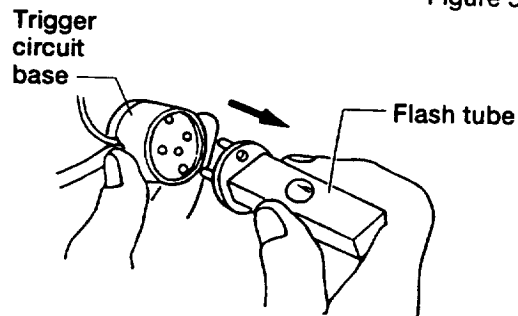

Figure 54
- (5) Remove the flash tube from the trigger circuit base (Figure 54).